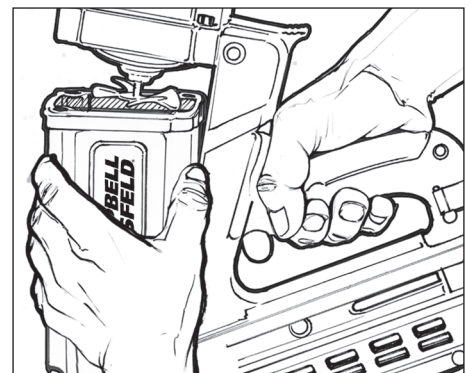

Figure 4
4. Gently tilt the handle and magazine assembly away from the motor assembly. Pull the two assemblies apart (see Figure 4).